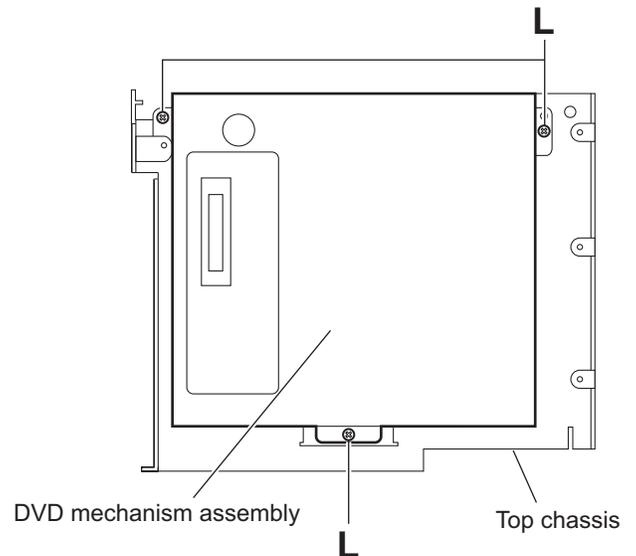

Fig.9
3.1.8 Removing the DVD mechanism assembly (See Fig.9)